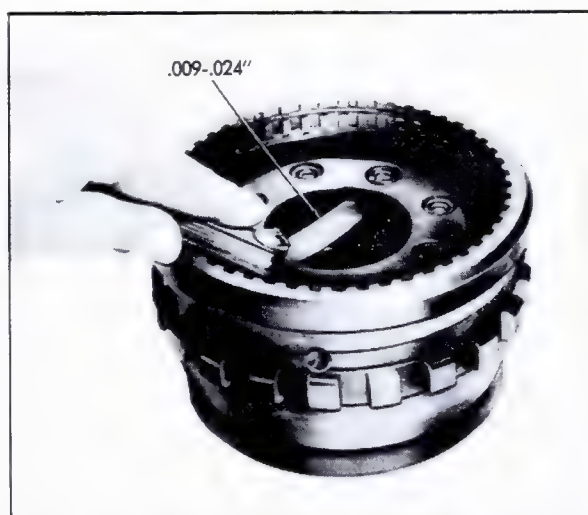

Fig. 7-96 Checking Output Carrier Pinion End Play
3. Check pinion end play. Pinion end play should be .009 inch-.024 inch, Fig. 7-96.